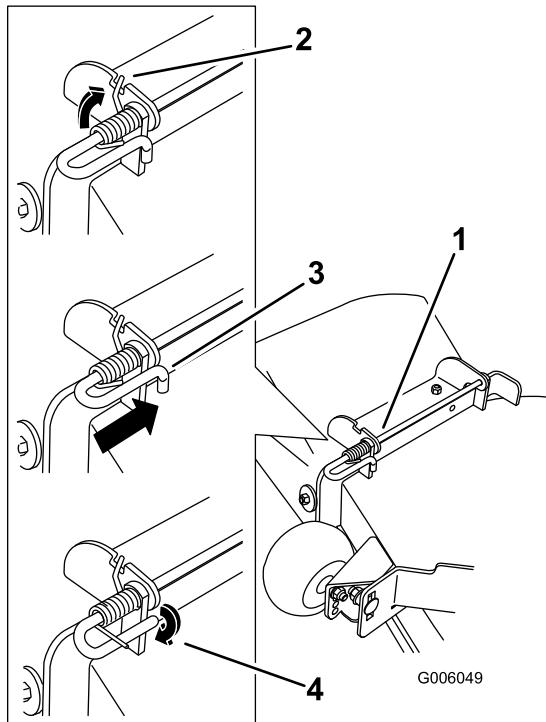

Figure 70
4. Lift the long end of the spring and place it into the notch on the deflector assembly bracket (Figure 70).
- 5. Secure the rod and spring assembly by twisting it so the short end of the rod can be placed behind the front bracket welded to the deck (Figure 70).